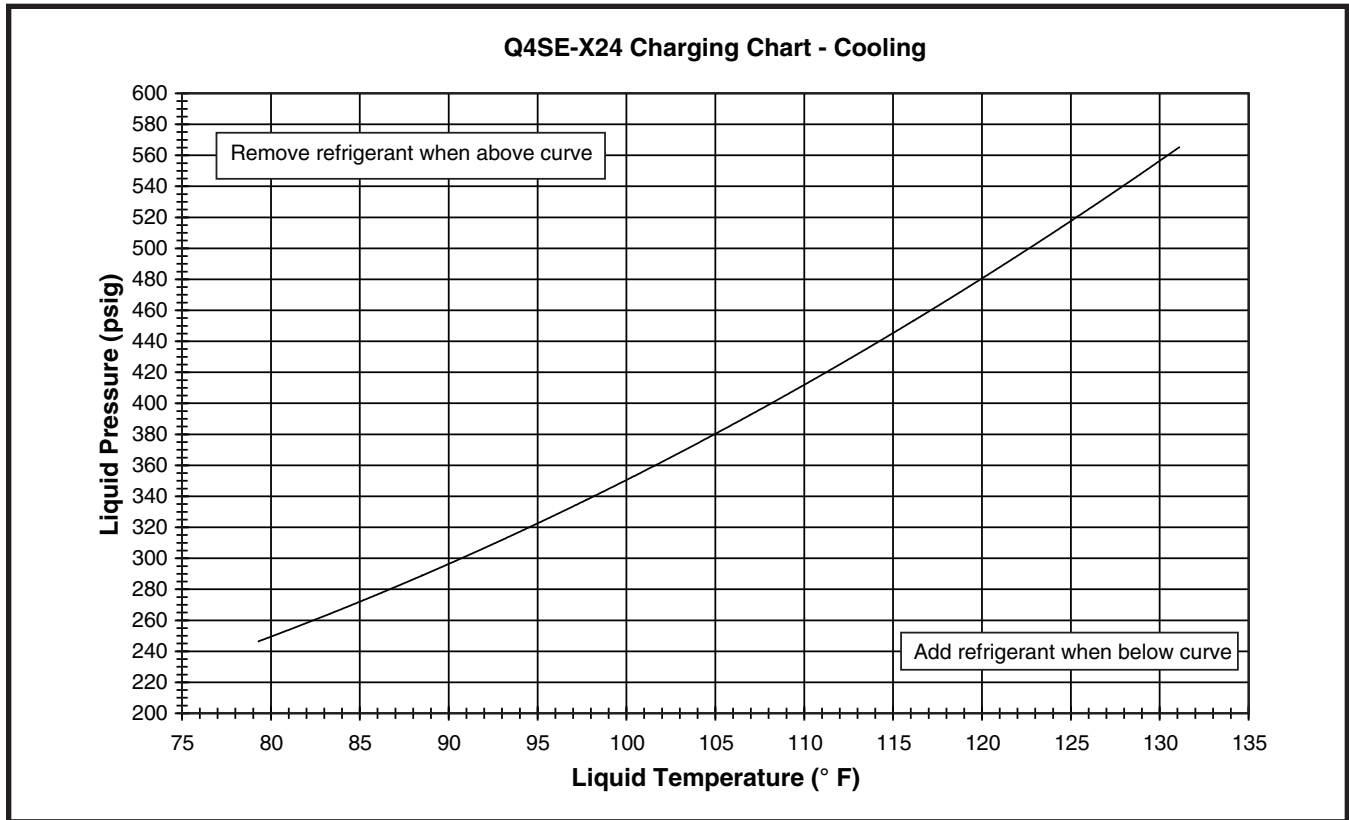

Figure 13. Charging Chart for 2 Ton Units
- The refrigerant charging charts (Figures 13 - 16, pages 20 & 21) are applicable to listed assemblies of equipment and at listed airflows for the indoor coil.
3. For the temperature measured, determine the required liquid refrigerant pressure from the appropriate charging charts in Figures 13 - 16.